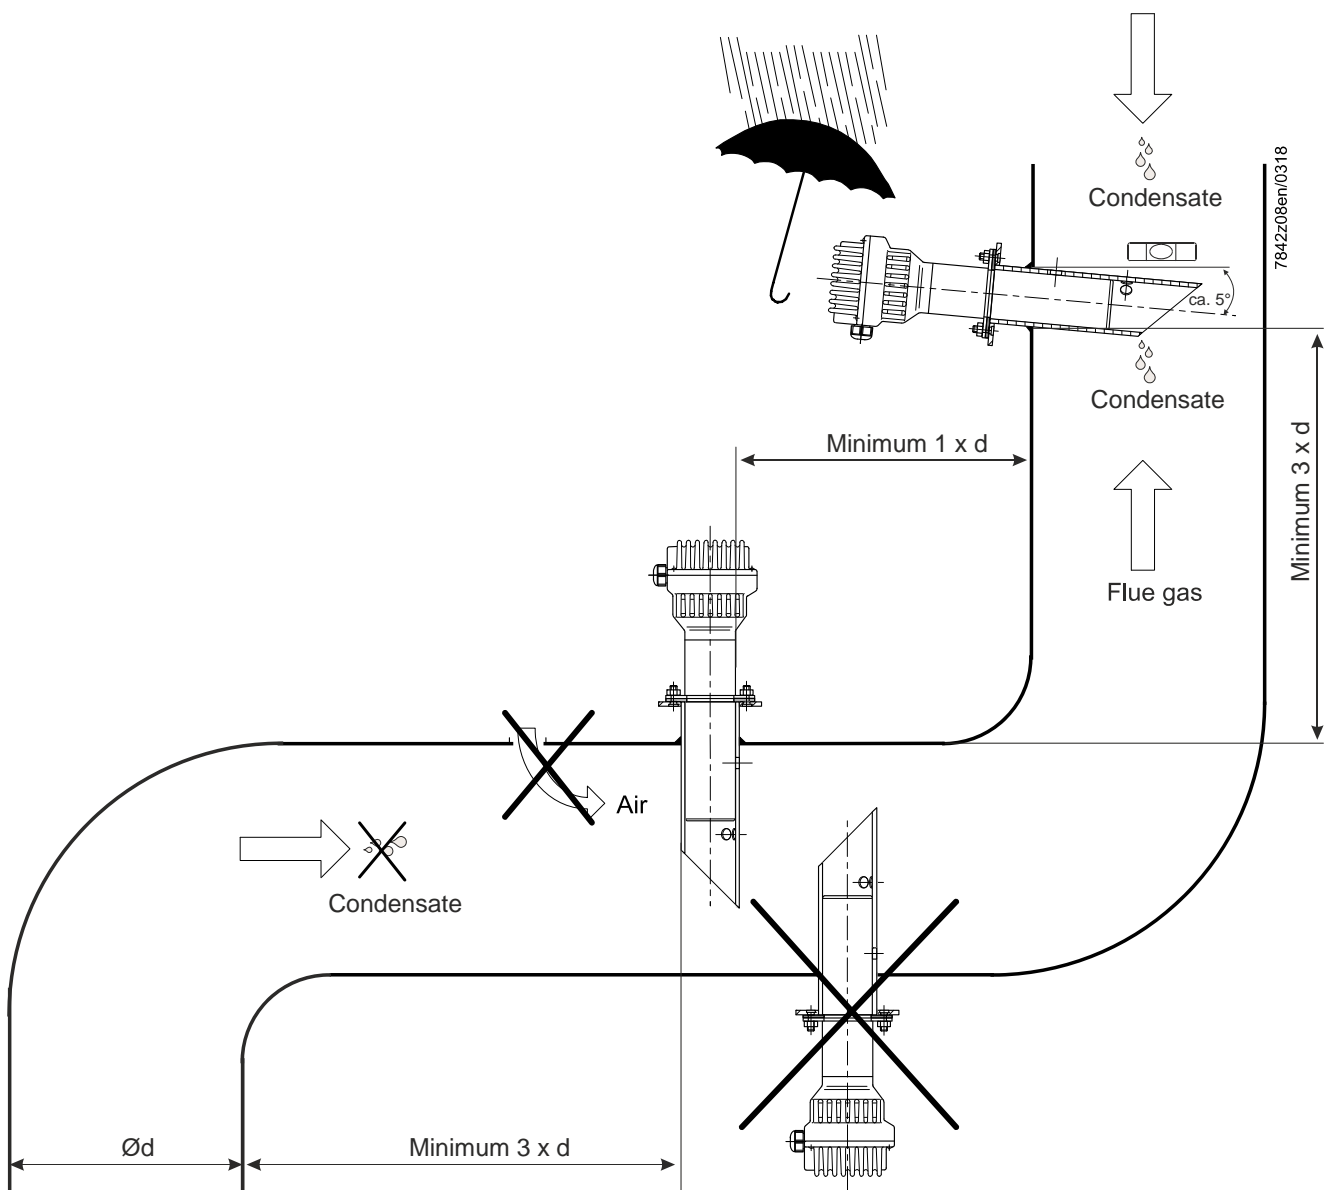

Figure 7: Mounting position of QGO20
1. Collection of flue gases and passing them to the sensor (Figure 7), adapting the sensor to the chimney.
To reduce the response time in the case of low flow rate, the AGO20 can also be mounted in an inclined position (Figure 7).